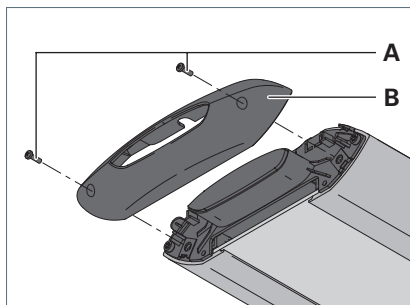

Fig. 17: Opening the luminaire.
- ▶ Unscrew the screws **A** from one side part of the luminaire, see Fig. 17.